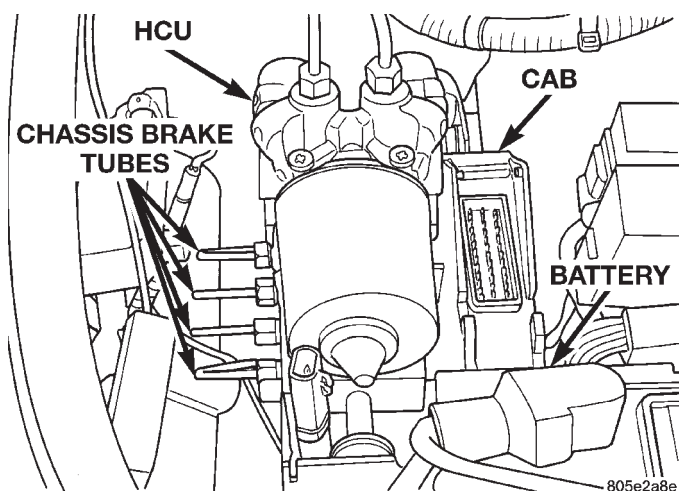
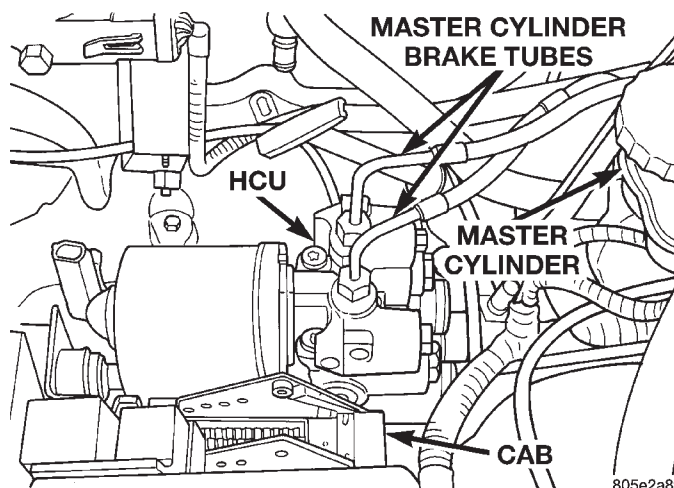

Fig. 24 Brake Tube Connections At HCU
Fig. 25 Master Cylinder Brake Tube Connections At HCU
- (6) Remove the 4 chassis brake tubes (Fig. 24) from the inboard (engine) side of the HCU.
- (7) Remove the 2 brake fluid tubes coming from the master cylinder at the HCU (Fig. 25).
- (8) Remove the 3 nuts attaching the HCU mounting isolators to the HCU mounting bracket. Two nuts are located toward the dash panel and 1 is at the front of mounting bracket just above the power steering fluid reservoir.
- (9) Remove the HCU from its mounting bracket.
(1) Install the HCU back in its mounting bracket using the reverse sequence of removing it from bracket. Install and securely tighten the 3 HCU mounting isolator to bracket mounting nuts.
(2) Connect the 2 brake fluid supply tubes from the master cylinder onto the inlet ports of the HCU (Fig. 25). Connect the 4 brake fluid output tubes to the ports on the HCU (Fig. 24). Torque all brake tube fitting nuts to 19 N·m (14 ft. lbs.).